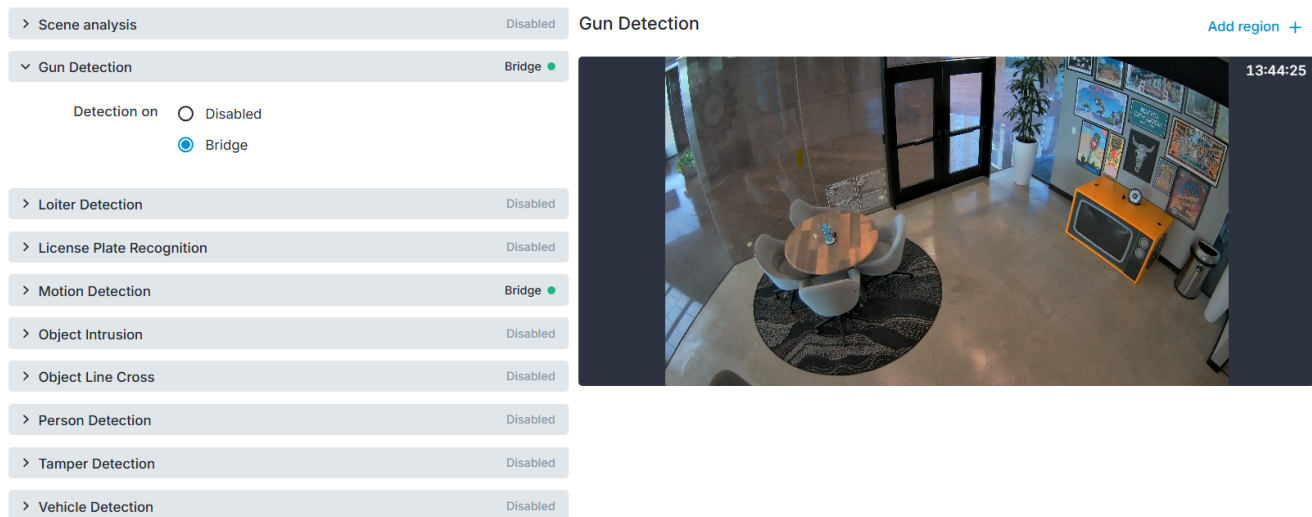

Figure 5: Enabling Brivo Eagle Eye Gun Detection
2. Go to **Analytics > Gun Detection** and select **Bridge**. See Figure 5.